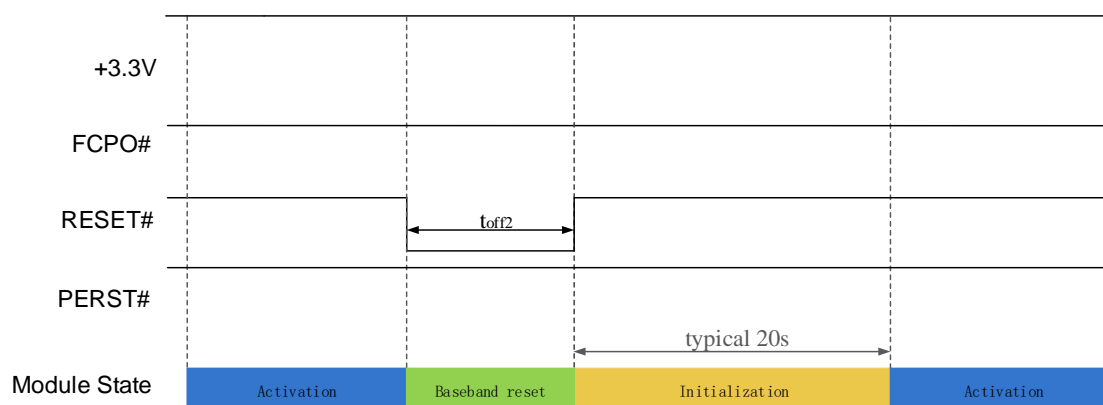

Figure 3-8 Reset control timing1st
- Reset timing 1st in Figure 3-8, PMU of module internal always on in reset sequence, recommend using in FW upgrade and module recovery;
Modem FW upgrade / Modem recovery	Refer to section 3.3.3 Figure 3-8 Reset timing 1 st